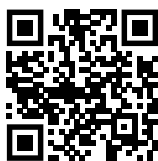

Fig. 74
- ▶ Atveriet Liebherr SmartMonitoring Dashboard. (skat. Fig. 74)